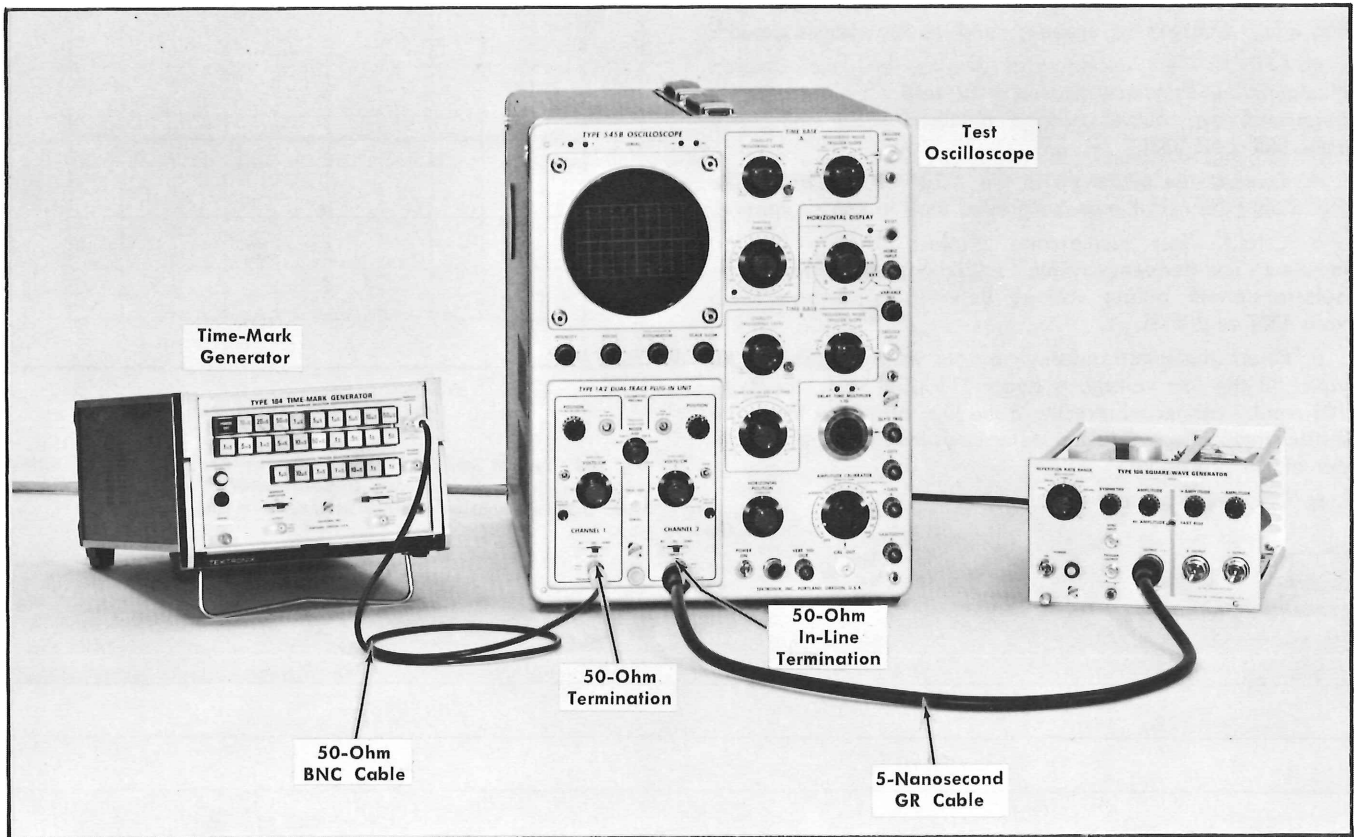

Fig. 6-8. Initial test equipment setup for steps 7 — 12.
- Test equipment setup is shown in Fig. 6-8.